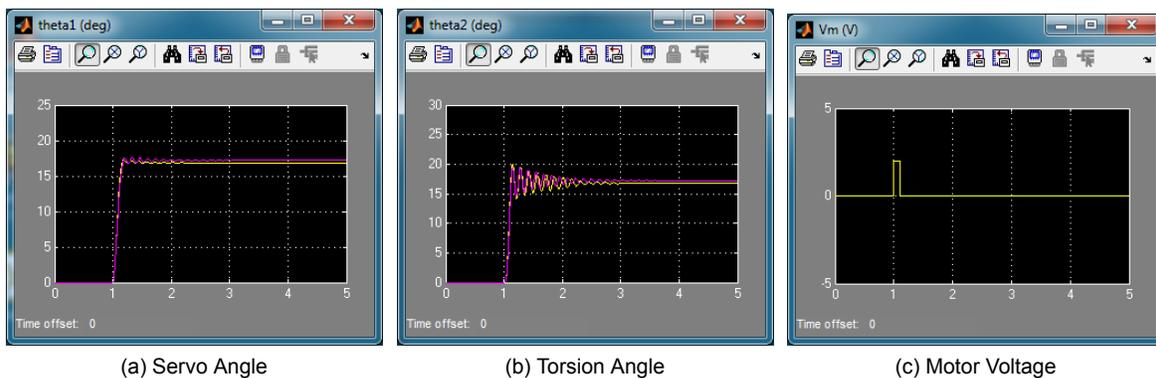

Figure 2.6: Typical Model Validation Response
4. Go to QUARC | Start to run the `q_torsion_val` controller. Typical scope responses are shown in Figure 2.6. The *theta1 (deg)* scope displays the simulated servo angle in yellow and the measured angle in purple. Similarly, the *theta2 (deg)* scope shows the simulated torsion angle in yellow and the measured angle in purple.